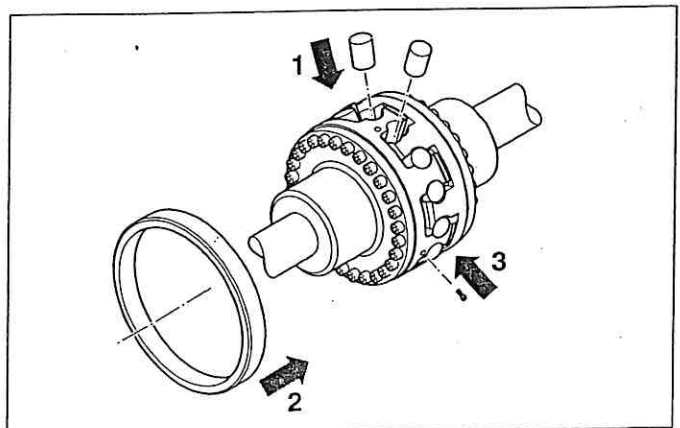

Fig. 4
- Insert buffers (Fig. 4, pos. 1).
- Slide the holding ring up to the shoulder of the claw ring (Fig. 4, Item 2).
- Refit the three cheese-head screws and tighten with torque  $M_A$  as shown in Table 1 (Fig. 4, Item 3).